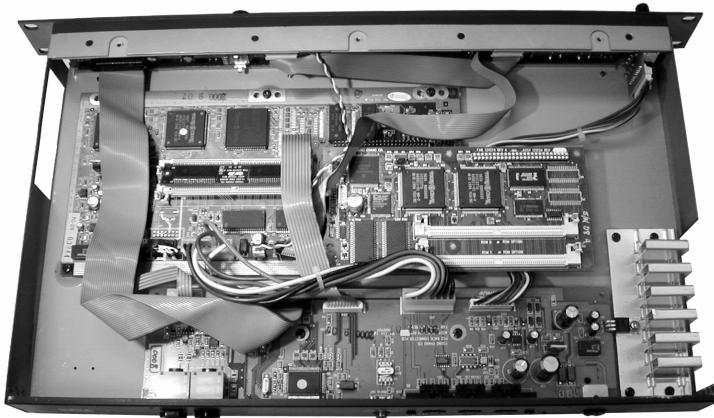

Figure 16 PCX-1 board, sockets for option boards
1. Locate the PCX-1 board, which is mounted on the Engine board. Identify the SIMM socket for the option you are installing (J8 for the PCR-1 board; J9 for the PCR-2 board). See Figure 16.